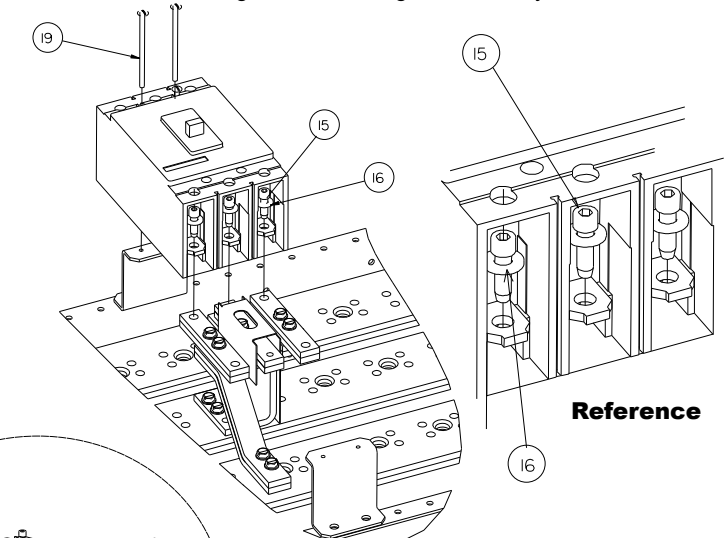

Figure 8
9. Reference fig. 8 - Install a circuit breaker by inserting one 1/4-20 socket-head cap-screw and 1/4-20 washer (item 15 and 16) into each of the three contacts on the line side of the breaker and into the 0.228" diameter holes in the phase links on the A, B and C phase. Torque all connections to the values as specified on the rear of the deadfront. Insert two 8-32 screws (item 19) into the two holes on the load side of the breaker and into the two tapped holes in the mounting bracket and tighten securely.